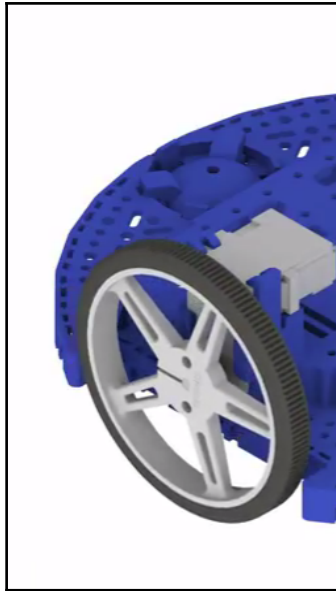

Figure 6.15: Pressing the wheel onto the output shaft of the motor. Image courtesy of Pololu—<https://www.pololu.com>
2. Press the wheel onto the output shaft of the motor until the motor shaft is flush with the outer face of the wheel (*Figure 6.15*):